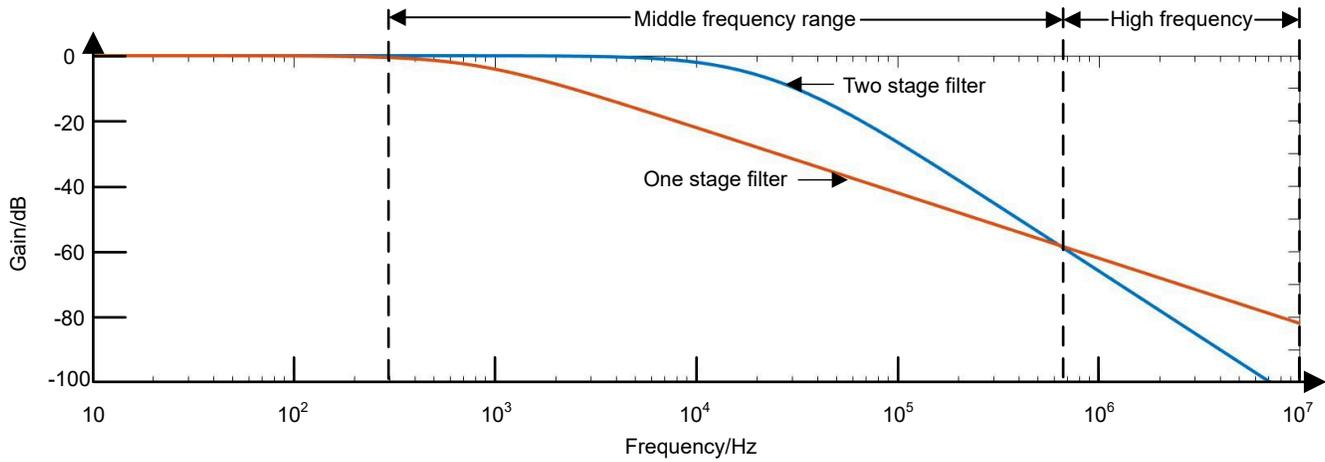

Figure 2-4. Comparison of Frequency Response with One-Stage RC Filter and Two-Stage RC Filter
- Two stage filter can bring -40 dB/dec gain slope at high frequency. Figure 2-4 shows how the two stage filter can have lower gain at high frequency while maintaining larger gain in middle frequency range.